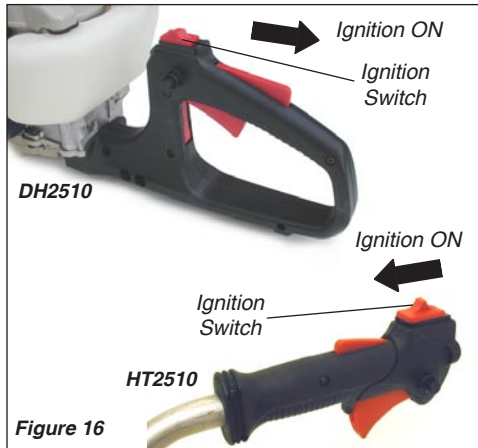

Figure 16
1. Move the ignition stop switch to the rear (towards the grip) to the “I” or ON position. See Figure 16.